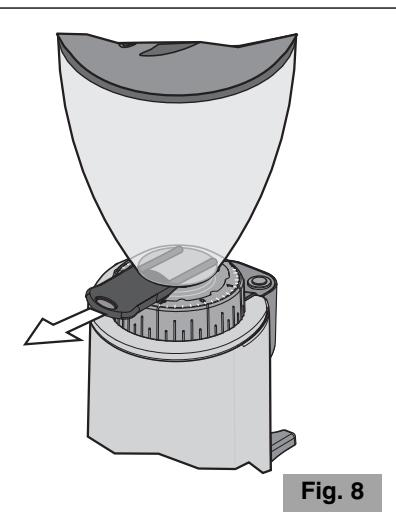

Fig. 8
**⚠ Make sure that shutter is completely open (to the last click) (see Fig. 8).**